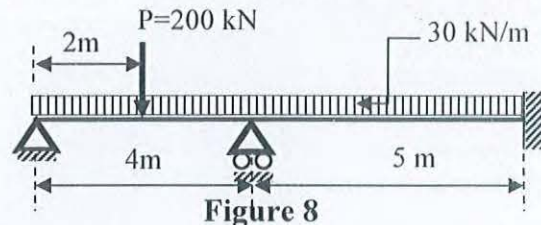

Figure 8
- b. The supports and loading conditions of a continuous beam is shown in **Figure 8**. Analyze the structure using Moment Distribution Method to obtain moments (diagram) of beams. All beams have uniform cross-section. [14 Marks]